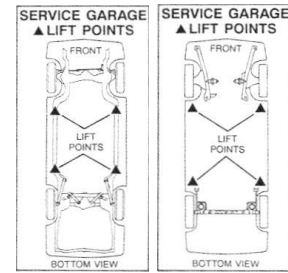

FIGURE 18 : TYPICAL LABEL DRAWING SEA J2184
THE LIFTING POINTS ARE IDENTIFIED BY HOLES, BOSSES, AND/OR DEPRESSIONS IN THE SHAPE OF AN EQUILATERAL TRIANGLE OR A SUPPLEMENTAL, SUCH AS A LIFT PAD, IDENTICAL TO THE TRIANGLE UNDER CAR BODY. REFER TO ALI/LP-GUIDE OF THE LAST 20 YEARS CAR MODELS. SEE **FIGURE 18**.
6. ALIGN THE 4 LIFTING PADS UNDER LIFTING POINTS RECOMMENDED BY VEHICLE’S MANUFACTURER. SEE **FIGURE 18**.